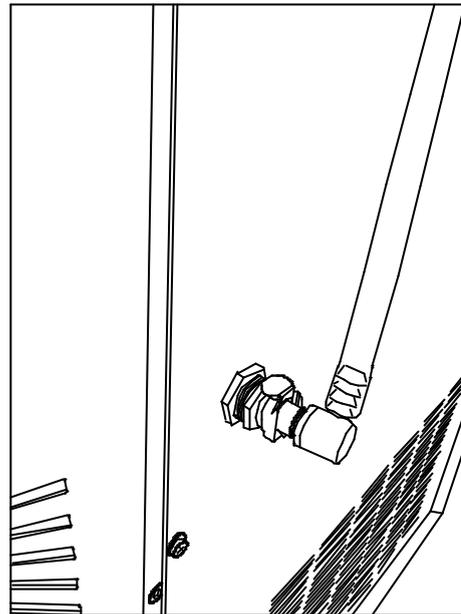

fig. 137
- ?? To remove the container for the disinfection medium, first loosen the rapid action hose (fig. 137). Then remove the container from the supports.